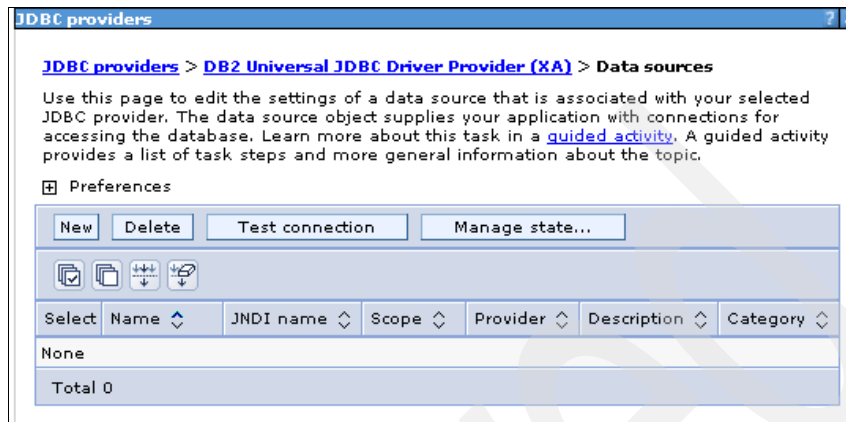

Figure 9-29 Creating a new data source
2. in the Data sources panel (Figure 9-29), click **New** to create a new data source.